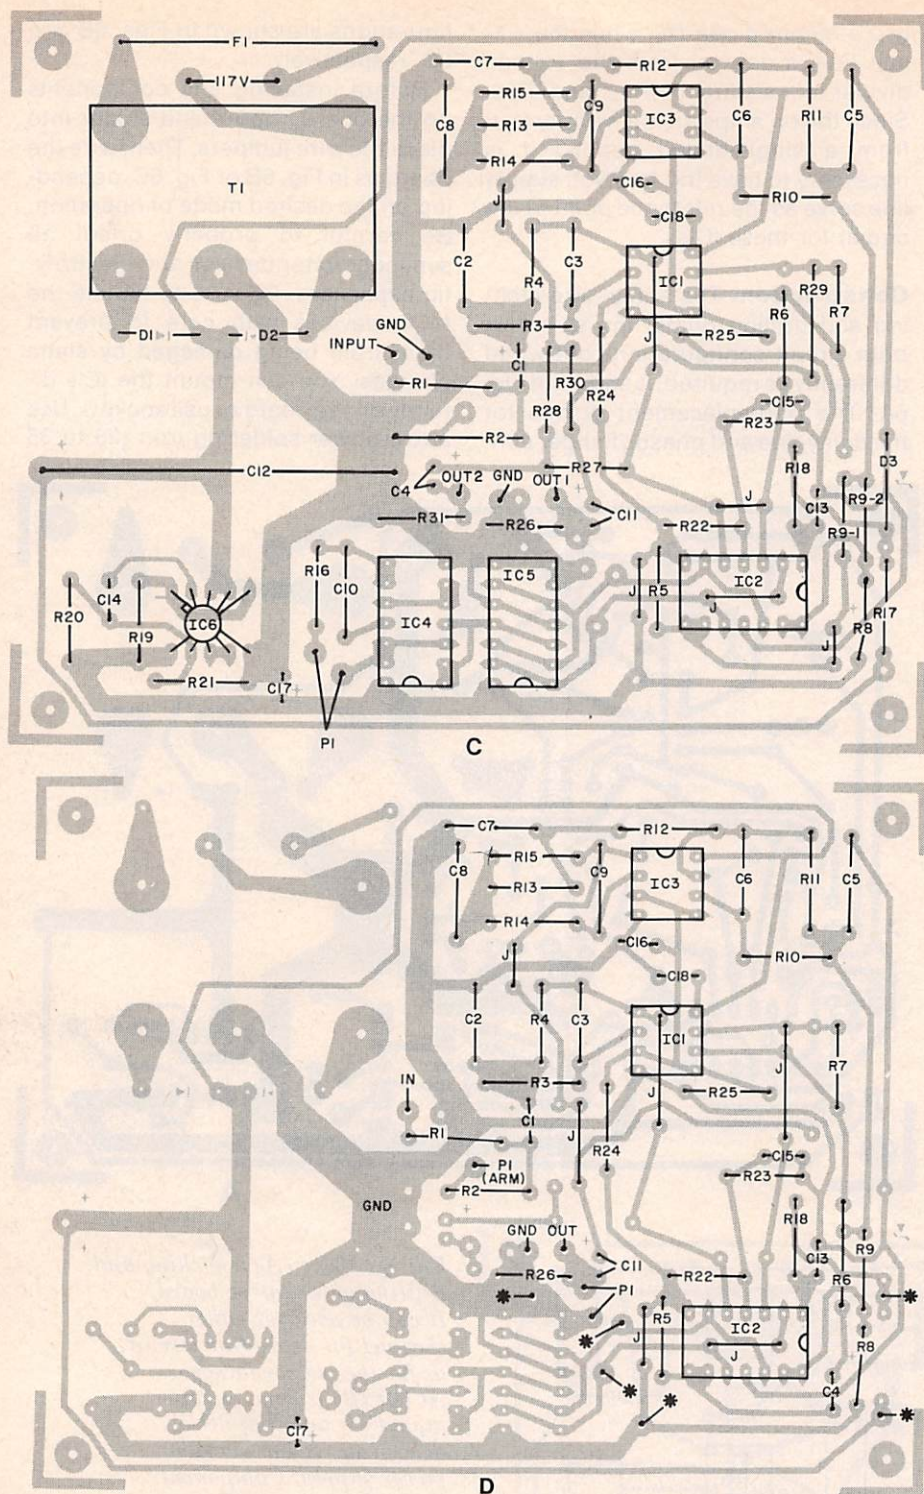

Fig. 6. Component layout at top is for phasor/flanger (C). Below (D) is for second channel of stereo system. It uses power supply in first channel.
Fig. 6. Above (A) is etching and drilling guide for pc board. It can be used for either channel for delay-line circuit, or for the phasor/flanger. At left (B) is component layout for one channel of delay line. It includes the power supply. Component layouts for phasor/flanger and second channel of stereo delay line are on next page.